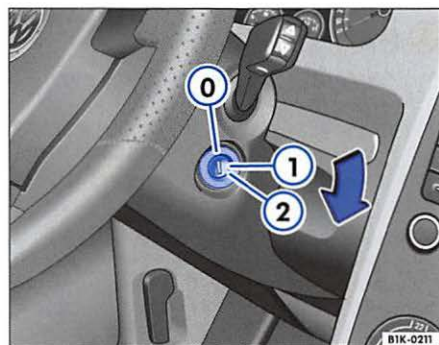

Fig. 80 Ignition key position
In this position $\Rightarrow$ fig. 80 0 the ignition is switched off and the steering column is locked.
⇒ page 84, fig. 80 ② to start the engine.
⇒ page 84, fig. 80.